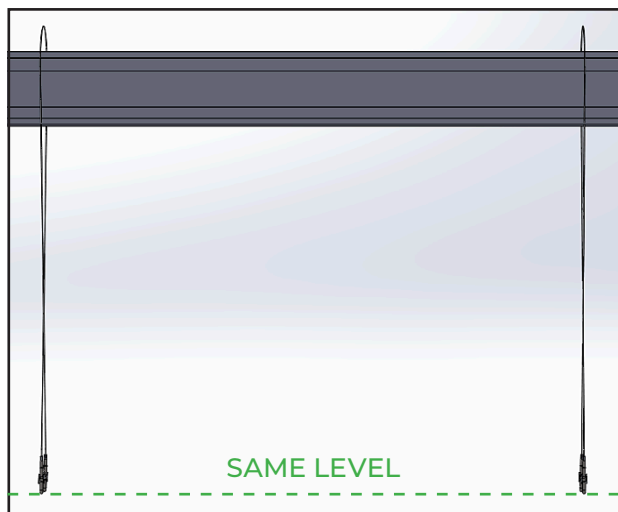
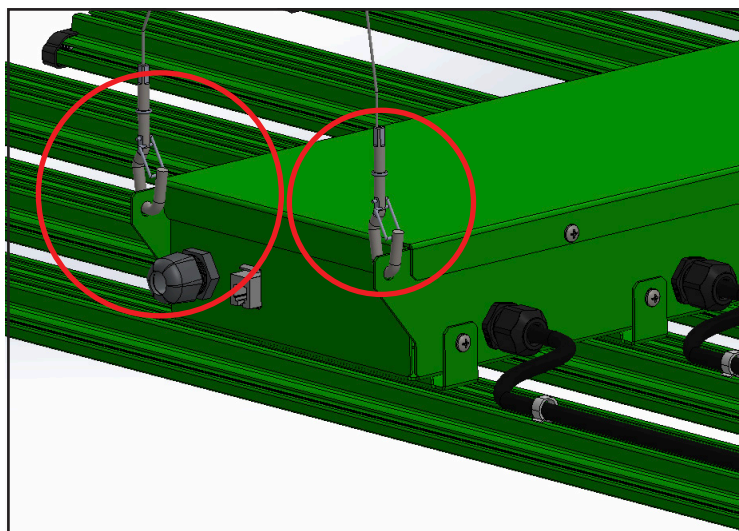

FIG. 3
FIG. 4
- When all four snap hooks are hanging at relatively the same height (FIG. 3), snap hooks onto driver box (FIG 4).